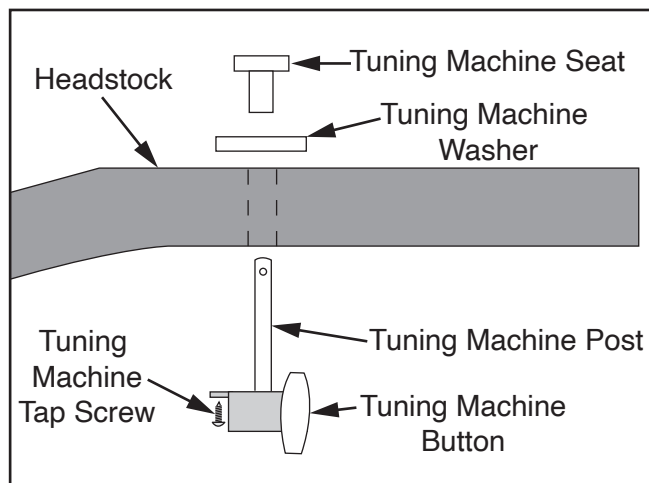

Figure 17. Tuning machine components.
The supplied tuning machines are easily installed. Each tuning machine consists of the parts shown in **Figure 17**.
1. Using a non-marring mallet, tap each of (6) machine seats and washers into pre-drilled holes on front of headstock.
2. From back of headstock, slide posts through headstock and secure in seats (see **Figure 17**).